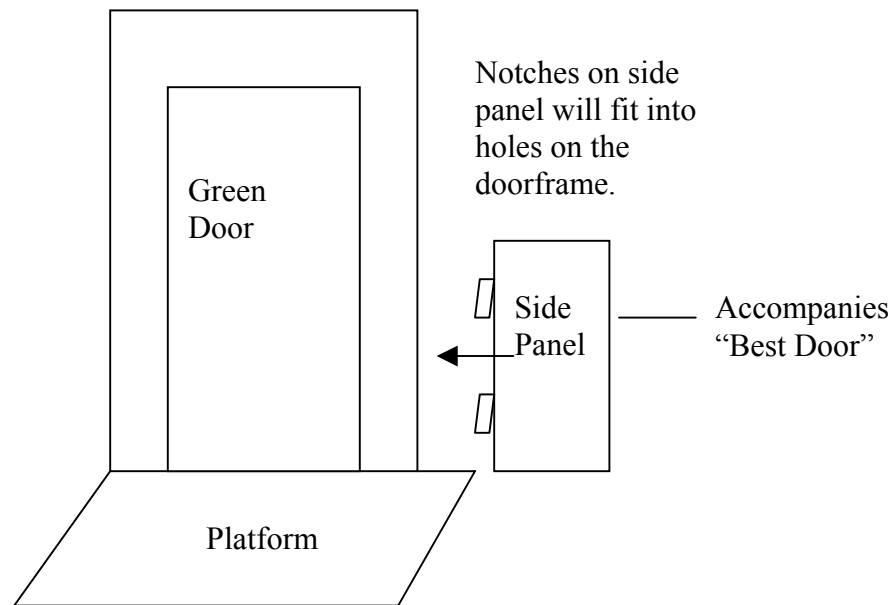

Figure 1.
2. Starting with the Green Door (“Best”), attach the 18” x 48” gray side panel to side of doorframe. The panel locks into the side of doorframe as show in figure 1 below.